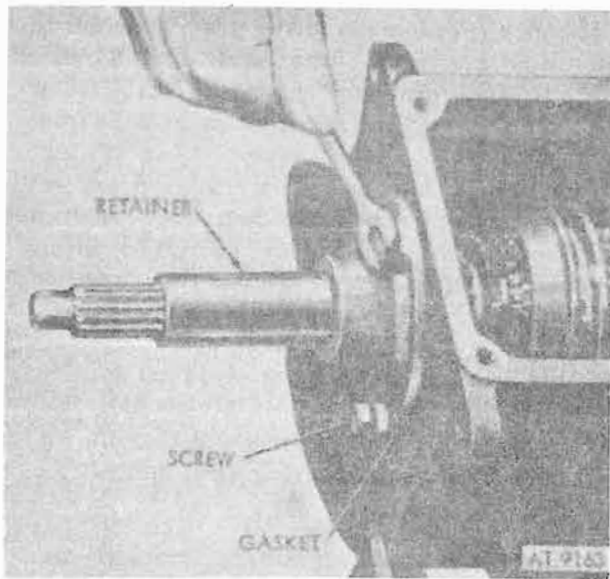

Figure 8-30. Input shaft retainer.
c. Remove three input shaft bearing retainer screws and washers and then remove input shaft retainer and gasket from transmission case (fig. 8-30).